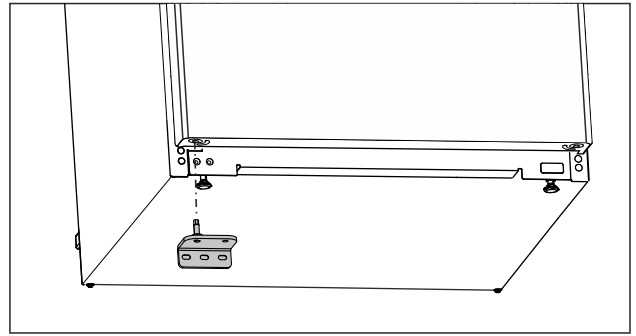

Fig. 20
- Insert the lower swap bearing block on the opposite side. (see Fig. 20)